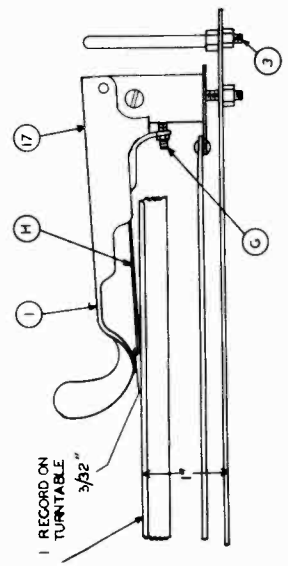

FIG. 2
The screw shown at (C) Figure 2, allows the adjustment to be made so that the unloading finger will separate the second record from the first or, in other words, barely rises over the top edge of the first record in removing the second record.